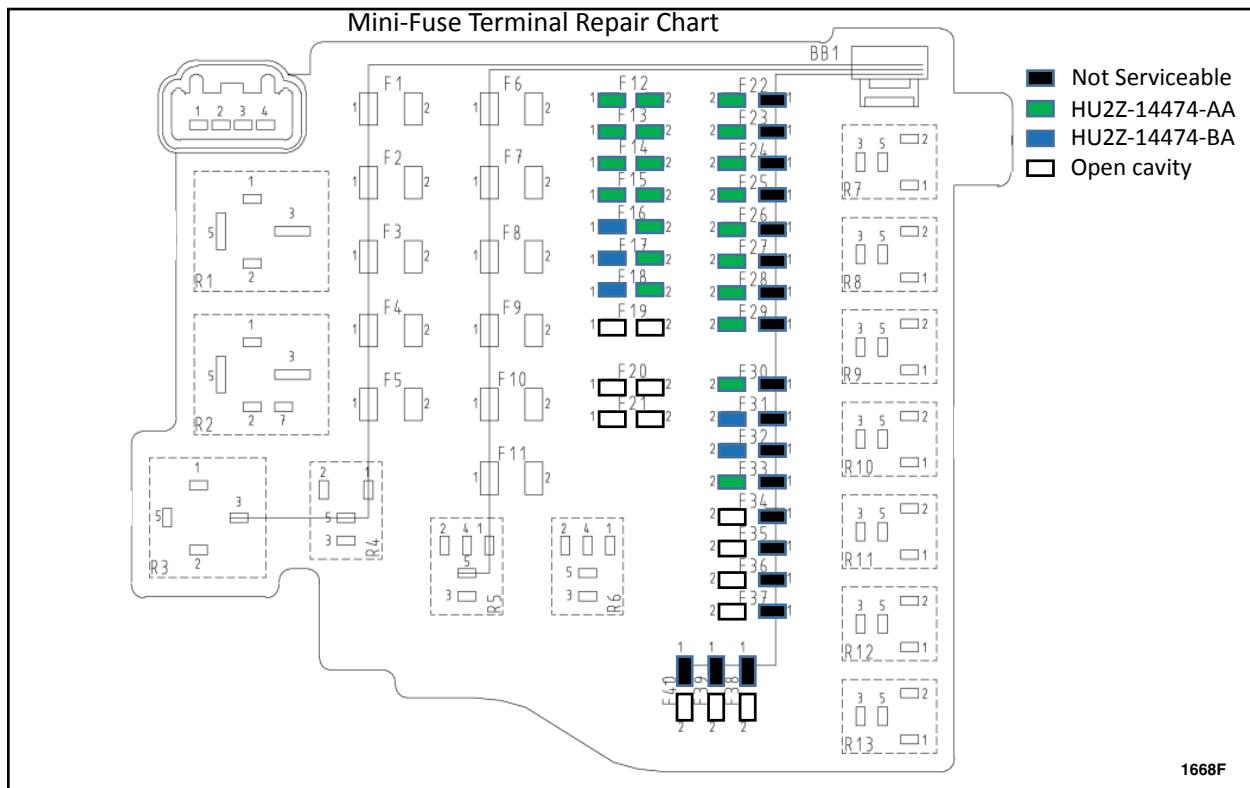

FIGURE 1
2. Using a test light and the appropriate Rotunda Flex Probe, verify the terminals for the affected fuse are not loose and the fuse is able to conduct current. Is a concern present with a mini-fuse terminal that can be repaired using a terminal repair kit? Refer to Figure 1.